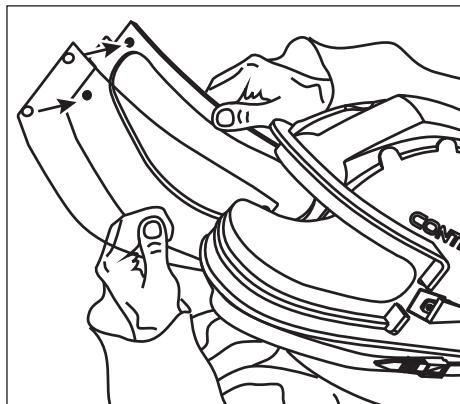

Fig. 3.Exchanging disposable window(s) Aspect
**Positioning the disposable windows:** After opening the window frame on the helmet type Aspect fit one or more disposable windows as protection for the safety glass (fig. 3).